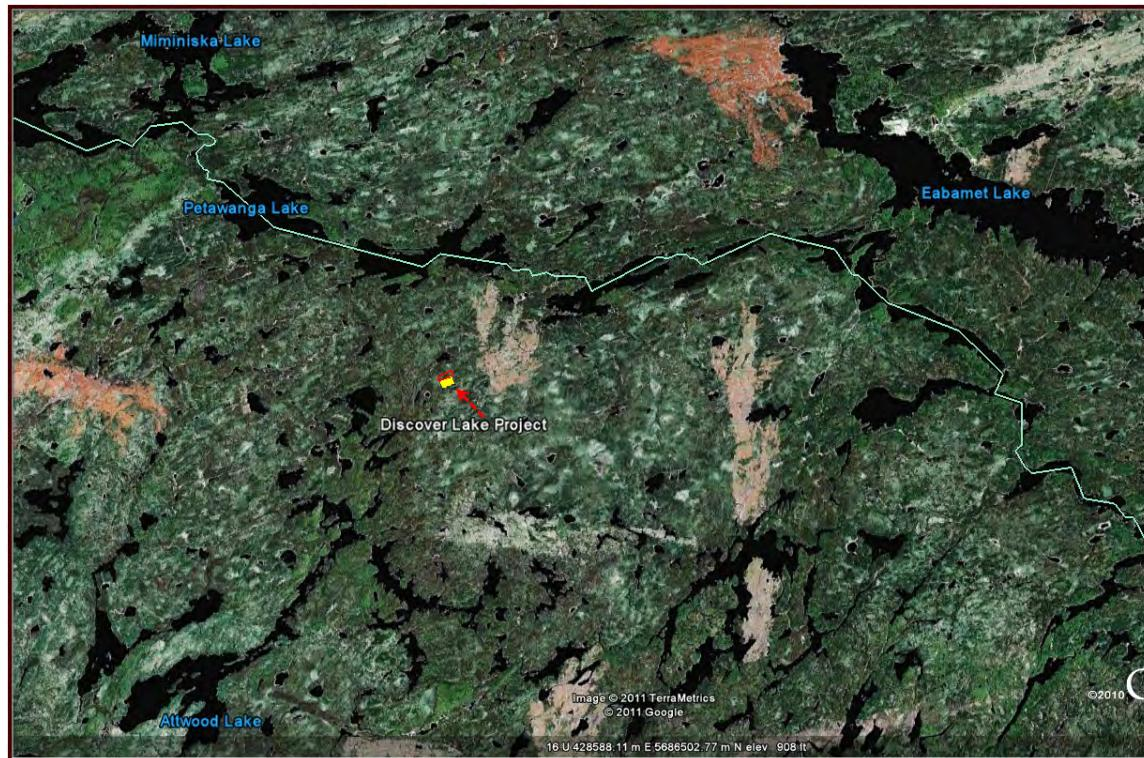

Figure: 1: Discovery Lake Project Location Google Map
- FIGURE 1: DISCOVERY LAKE PROJECT LOCATION GOOGLEMAP